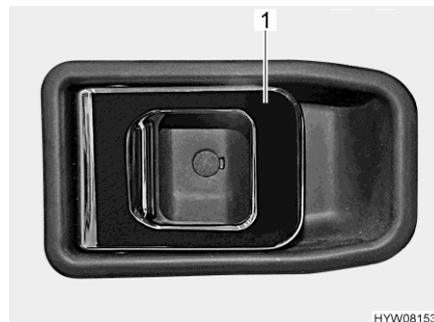

Fig. 36 Door lock (driver's door/conversion door, inside)
- Pull on the handle (Fig. 36,1). The door lock is unlatched or opened.
- Push the handle (Fig. 36,1). The door lock is locked.